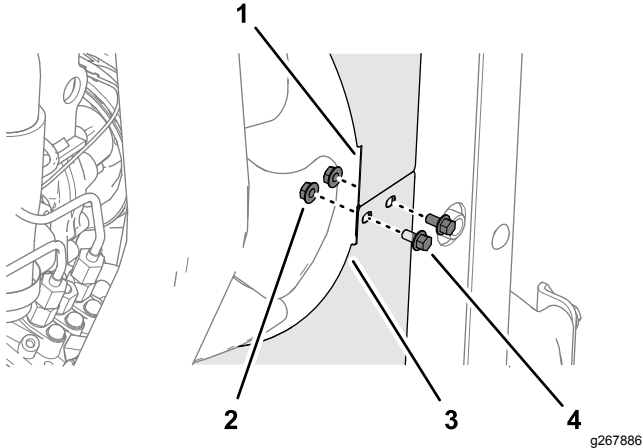

Figure 37
- At the left side of the machine, assemble the top and bottom fan shrouds (Figure 37) with 2 flange-head screws (1/4 x 1/2 inch) and 2 serrated-flange nuts (1/4 inch).